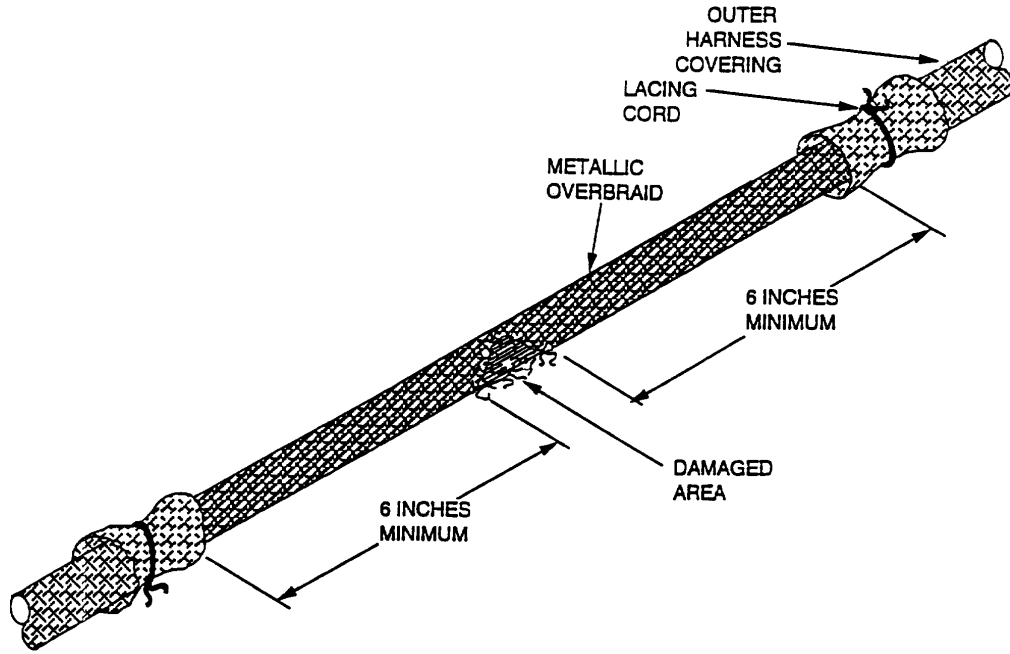

Figure 21. Harness Covering Removed
- a. Using scissors cut completely around outer harness covering, pull back each side at least 6 inches from damage and secure with lacing cord. A minimum of 12 inches is required for repairs (Figure 21).